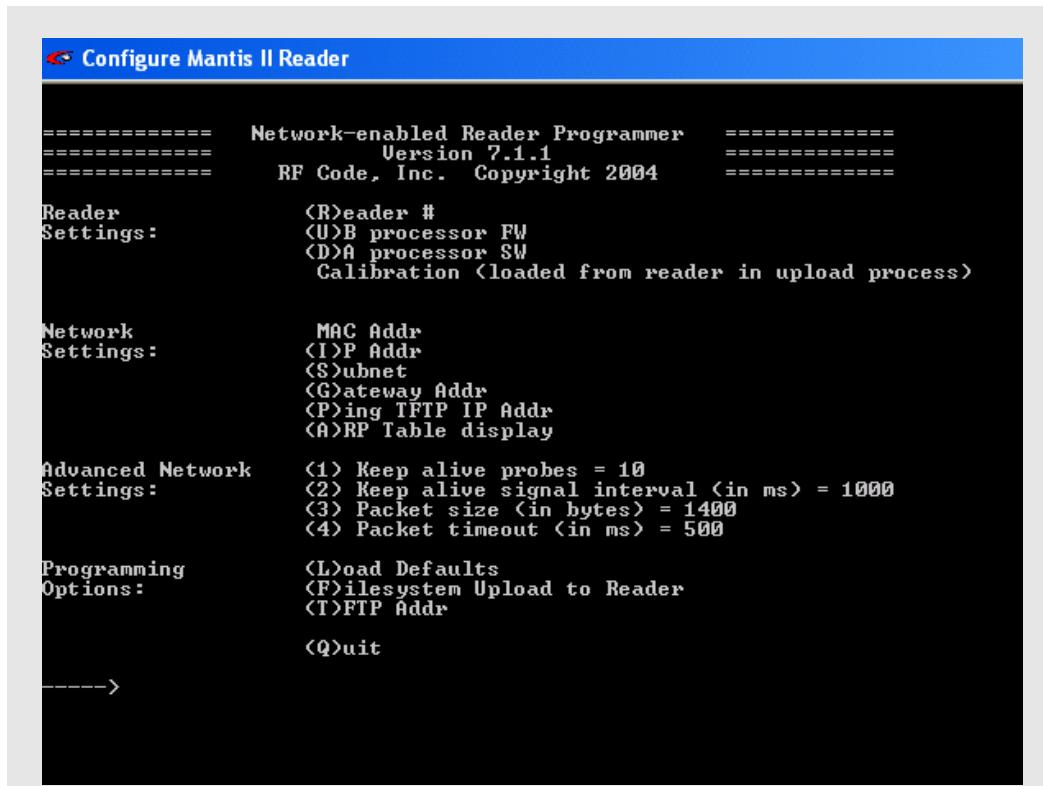

Figure 3.1 – Network-enabled Reader Programmer Utility.
Step 2 – The **Network-enabled Reader Programmer** utility appears in a DOS screen (see **Figure 3.1** above). Refer to the commands below: